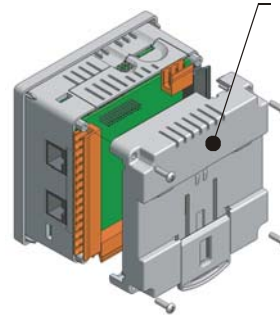

Figure 1-Removing Back Cover of the XLE
2. Remove the four screws on the back of the XLE unit and remove the back cover. The back cover can be discarded or saved, but it will be replaced with the extended back cover that ships with the communication add-on. Screws are re-used (Figure 1).